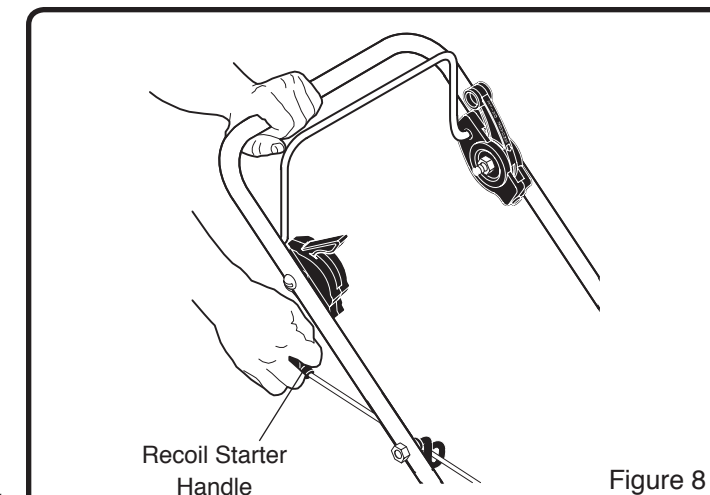

Figure 8
4. Firmly grip the Trimmer handle with your left hand, (See figure 8)
5. Firmly grip the Recoil Starter Handle with your right hand. (See Figure 8)